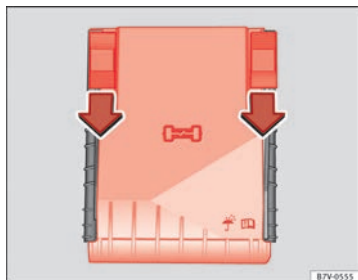

Fig. 203 In the engine compartment: fuse box cover
- Move the attachment tabs forwards, in the direction indicated by the arrow to release the fuse box cover ⇒ Fig. 203.